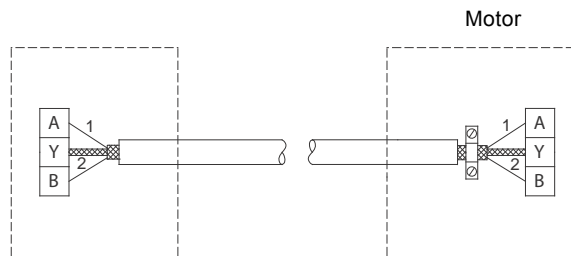

Fig. 12 Connection with screened 2-core cable
- If a screened 2-core cable is used in the existing installation, connect the cable as shown in fig. 12.